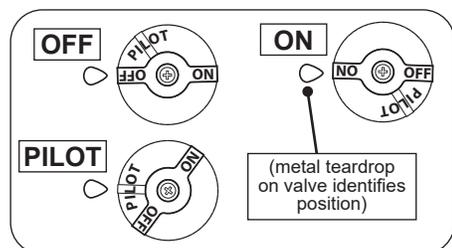

Fig. 27-1 Gas control knob
2. Locate the valve on the unit. Push in the gas control knob slightly and turn clockwise  to **OFF** (Fig. 27-1).
4. Turn the control knob counterclockwise  to **PILOT**. Push the knob **firmly and fully** in and hold. Push the piezo igniter button several times until the pilot lights. Continue to hold the knob in for about one (1) minute after the pilot is lit. Release the knob and it will pop back out. The pilot will remain lit. See Fig. 27-1 and 27-3. If it goes out, repeat steps 2-4.
1. Ensure the pilot is burning. Turn the control knob counterclockwise  to **ON** (see Fig. 27-1).
To shut down the burner and pilot (total shutdown), flip the toggle switch to **OFF**, and push in the control knob slightly and turn clockwise  to **OFF** (see Fig. 27-1 & 2).